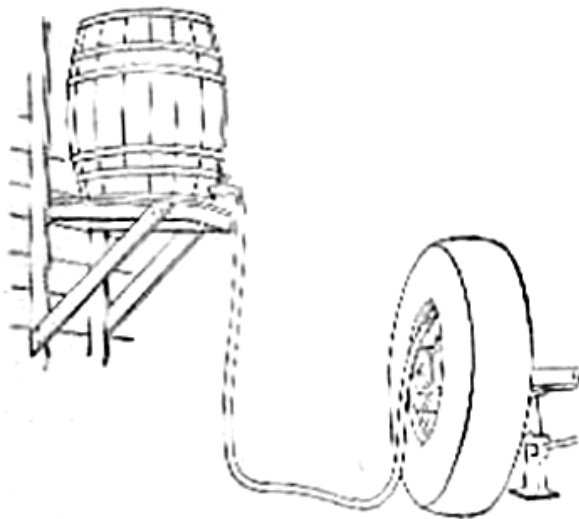

Fig. 37.
1. Gravity; attaching hose adapter to valve and from a level at least five feet higher than valve stem, allowing liquid to run into tube. See Fig. 37.